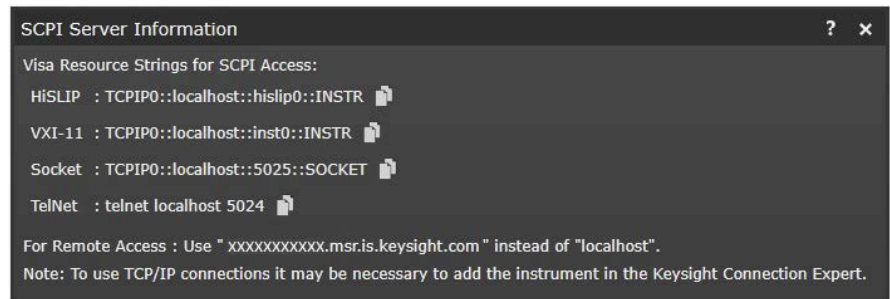

Figure 9 SCPI Server Information window on the M8070B Software
- In the **Enter/Select VISA address/alias (or SICL address):** text field, you can type the VISA/SICL address directly or copy it from the Keysight M8070B Software and paste it here. To verify the correct VISA address to connect to M8070B, access the **SCPI Server Information** window (Figure 9) by clicking **Utilities > SCPI Server Information...** from the main menu of the Keysight M8070B software.